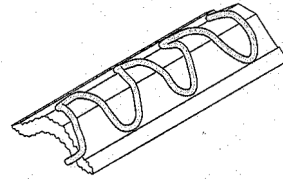

Fig. 33: S-pattern bead on the corner molding
4. **Apply the silicone.** Apply a 1/8" to 1/4" bead of 100% clear silicone sealant to the back of the corner molding in an S pattern (Fig. 33).